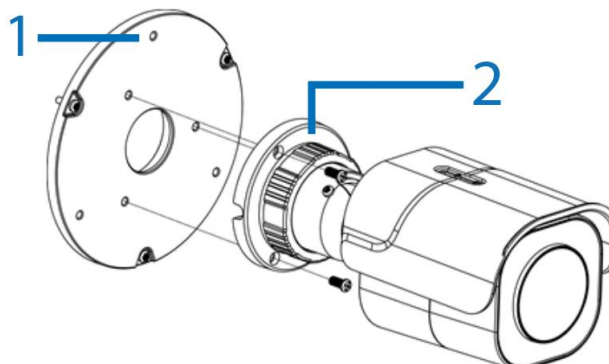

Figure 11
- Run the camera cable through the hole on the adaptor plate (1) (Figure 11).
- Hold the camera base (2) (Figure 11) up to the adaptor plate and align the three holes on the camera base with the three holes on the adaptor plate.